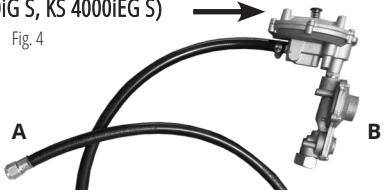

Fig. 4
3. Connect the LPG hose to the LPG input on the generator control panel (connect hose end **A** to the LPG input on the generator control panel, as shown in Fig. 4).
4. Connect the hose end with the reducer to the gas cylinder (connect hose end **B** to the gas cylinder, as shown in Fig. 4).
6. Press the pressure relief valve on the reducer 2-3 times (see Fig. 4).